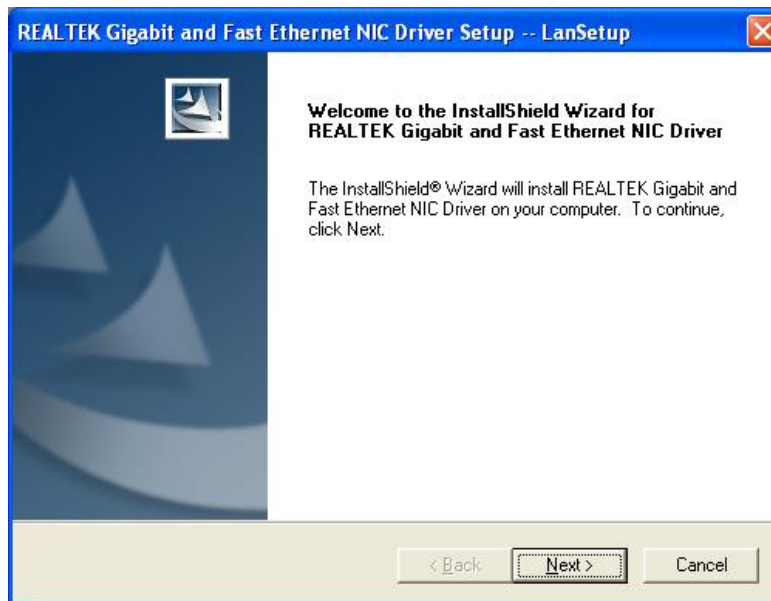

Figure 6-23: LAN Driver Welcome Screen
Step 2: Once you double click the **Setup** icon, a **Welcome** screen shown in **Figure 6-23** will appear.